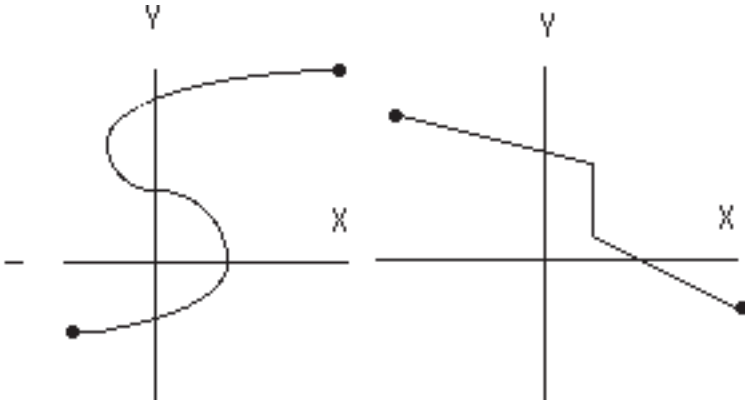

Figure 13. Examples of Illegal Functions.
2) The nonlinear function must be a single-valued function of X . That is, for each input value, there can exist only one output value. Figure 13 shows two illegal functions. This limitation is seldom encountered in natural phenomenon.